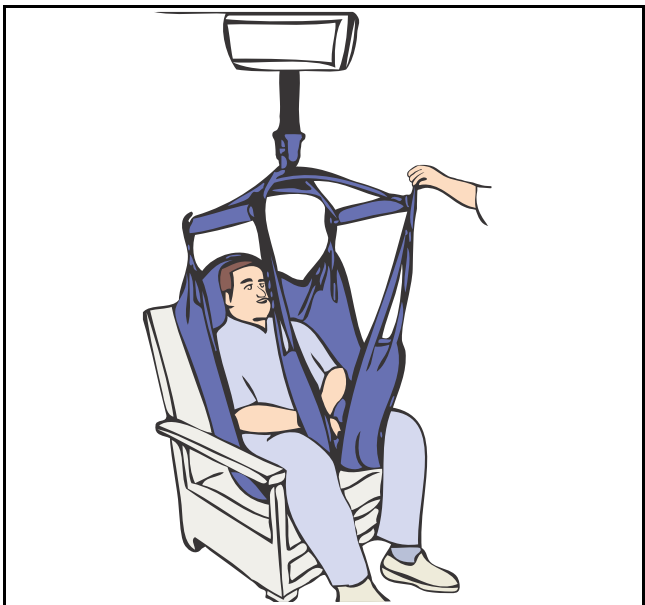

Fig. 27
- 4) Proceed with the patient transfer to a chair, or place the patient onto a bed, by moving and then lowering the patient into the desired position (see Fig. 27).